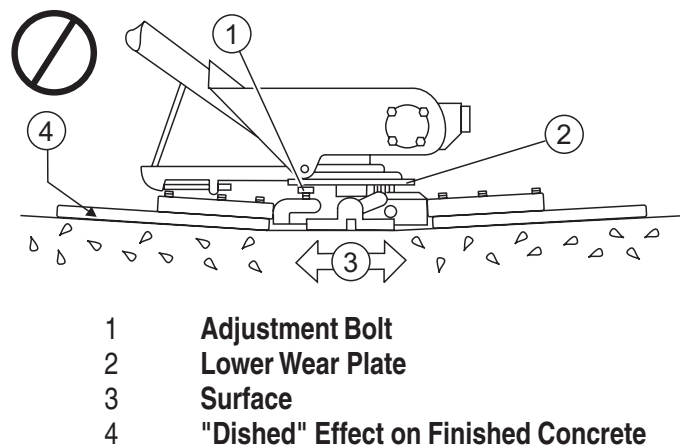

Figure 39. Incorrect Spider Plate Alignment
2. Pitch the blades as flat as possible. The **adjustment bolts** should all barely make contact with the **lower wear plate** on the spider. If one is not making contact, adjustment will be necessary. (Item 1, Figure 39).
Figure 39 illustrates, "**incorrect alignment**", **worn spider bushings or bent trowel arms**. Check that the adjustment bolt is barely touching (0.10" max. clearance) lower wear plate. All alignment bolts should be spaced the same distance from the lower wear plate.